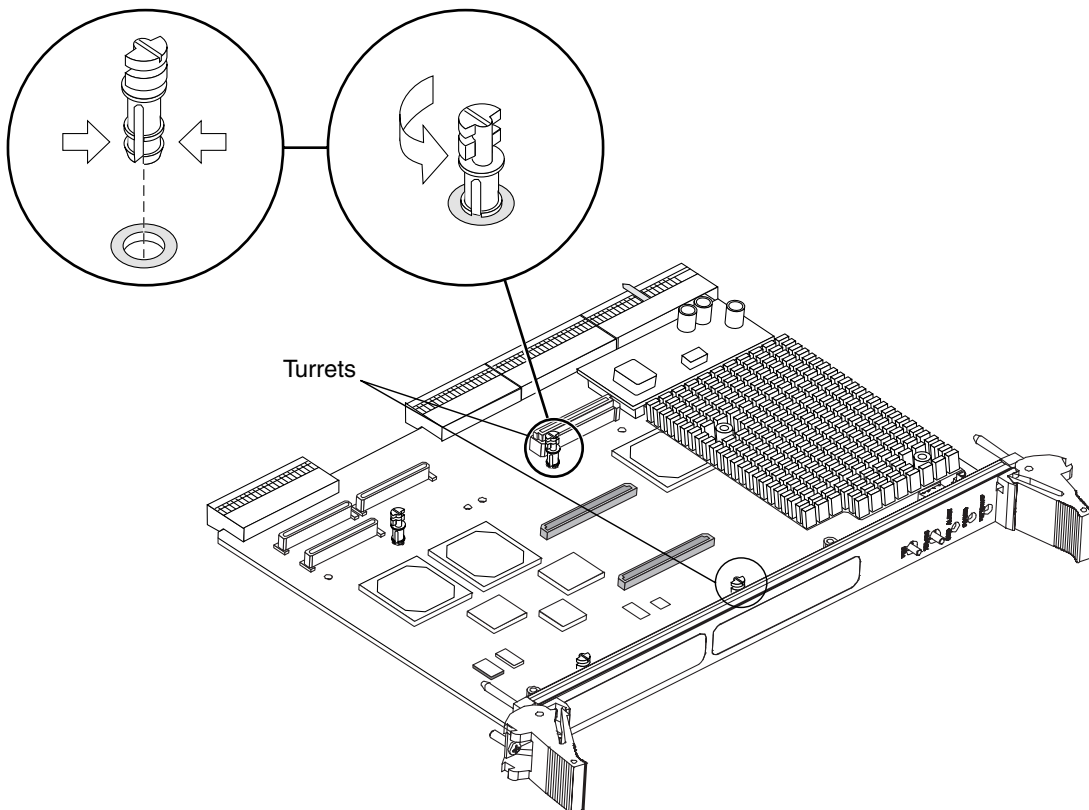

FIGURE 4 Installation of a Turret on a Typical Netra CP2000/CP2100 Board for Single-wide Memory Installation
- Pinch the turret at the bottom and insert it into the turret mounting hole on the Netra CP2000/CP2100 board as shown in FIGURE 4.